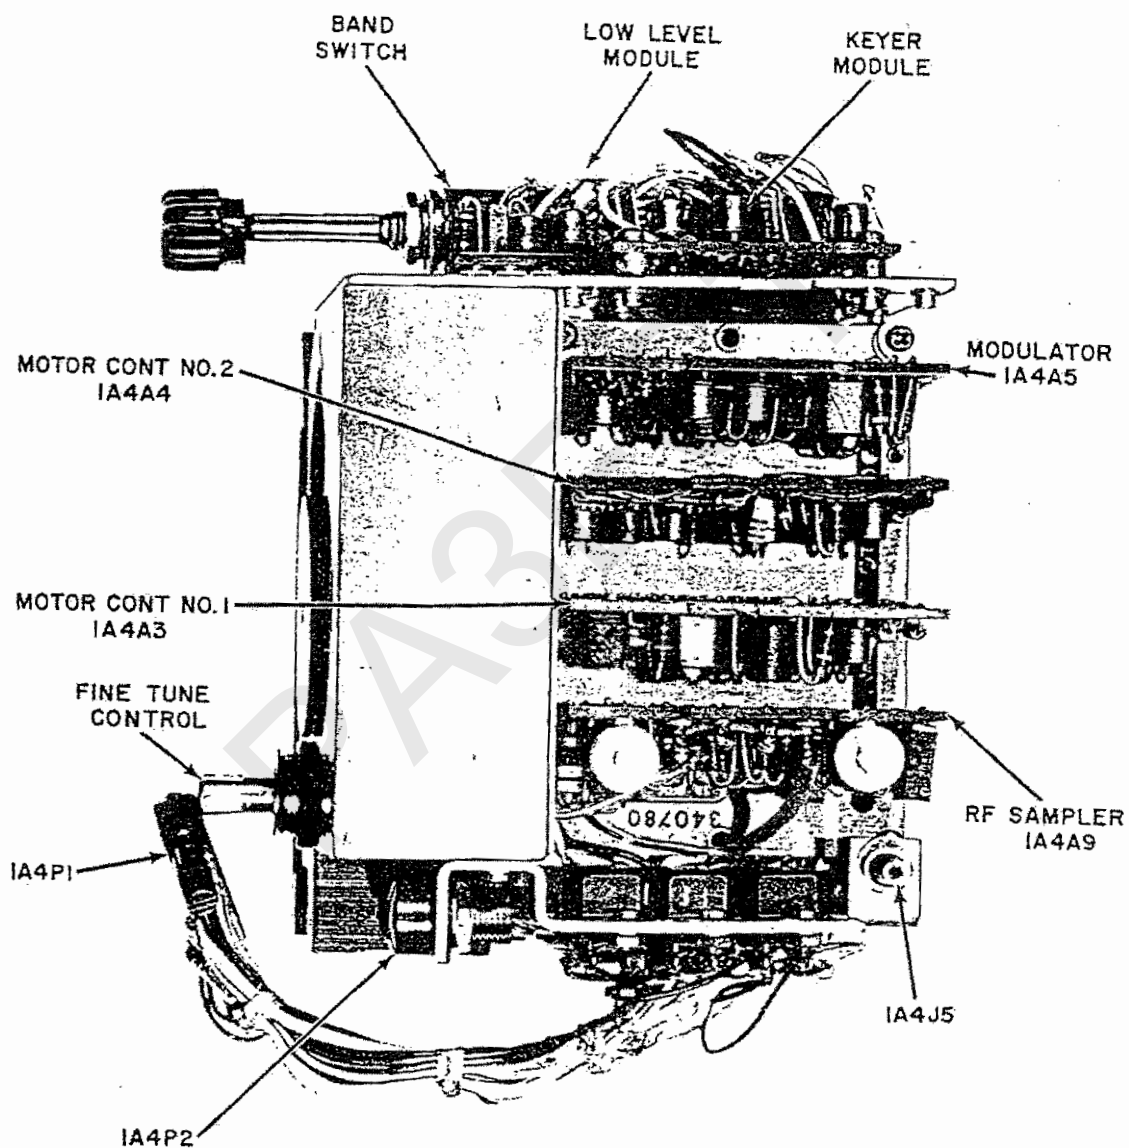

Figure 5-17. RT-224 Module Location (bottom view)
a. Removal. The removal of modules 1A4A2, 1A4A3, 1A4A4, and 1A4A5 is identical, except for the RF sampler module 1A4A2 (figure 5-17). Access to the module is gained by removing the two screws and the cover and pulling the modules out of the parent board 1A4A9 for servicing or replacement. When removing the RF sampler module 1A4A2, the two wires for the RF input and RF output must be unsoldered before the module can be removed (figure 5-17).
b. Replacement. The replacement of modules 1A4A2, 1A4A3, 1A4A4 and 1A4A5 is identical except for module 1A4A2. The modules are placed over the guide pins and pushed down to mate with the parent board connector (figures 5-14 and 5-17). Module 1A4A2 is inserted in the same manner but the two wires, RF input and RF output, must be resoldered (figure 5-17). After replacing all the modules, the cover (10) and the two screws are replaced.
- (1) Remove cover from modules 1A4A2, 1A4A3, 1A4A4, and 1A4A5 (figure 5-17).
- (2) Remove modules 1A4A2, 1A4A3, 1A4A4, and 1A4A5 as outlined in paragraph 5.15a.
- (3) Remove four screws securing the parent board to the chassis.
- (4) Tilt the module up and rotate it 180 degrees away from the transmitter for servicing, or tilt it out and unsolder and tag the wires for removal.